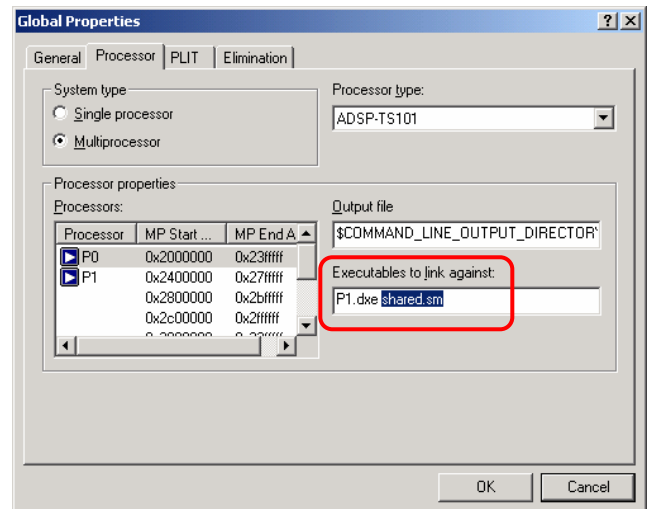

Figure 10 Adding “shared.sm” to the “Executables to link against” box.
*Shared.sm* should now be contained in the *Executables to Link Against* box for each processor as illustrated in Figure 10.